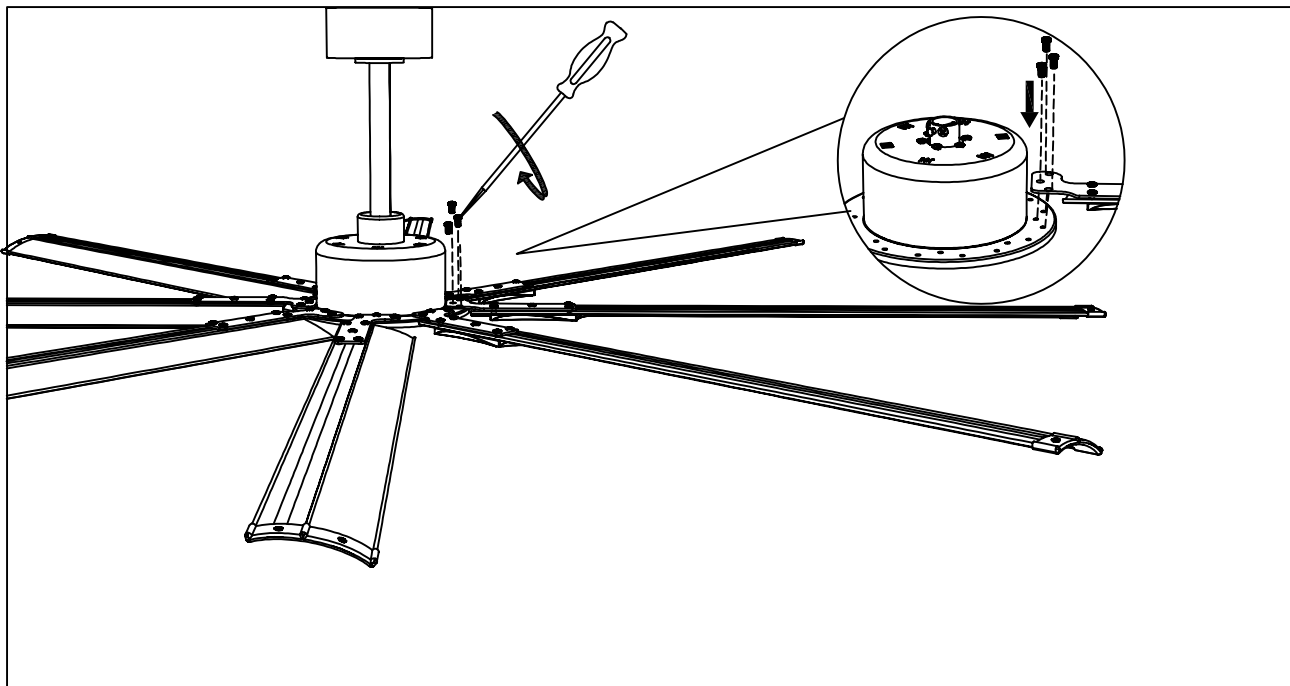

Figure 5.2
- Put the blade arm end of the fan into the motor blade frame hole and fix it on the motor with the provided screws (note: the first screw cannot be tightened, tighten the second and third screws, and finally tighten the first screw). Repeat the above steps to install the remaining 7 fan blades to the motor. After installing the fan blade, gently shake the fan blade to ensure that it is securely installed. (Figure 5.2)